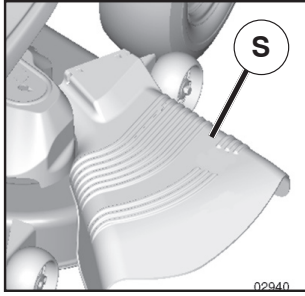

Fig. 23
CAUTION: Do not operate the mower without either the entire grass catcher, on mowers so equipped, or the deflector shield (S) in place. (Fig. 23)